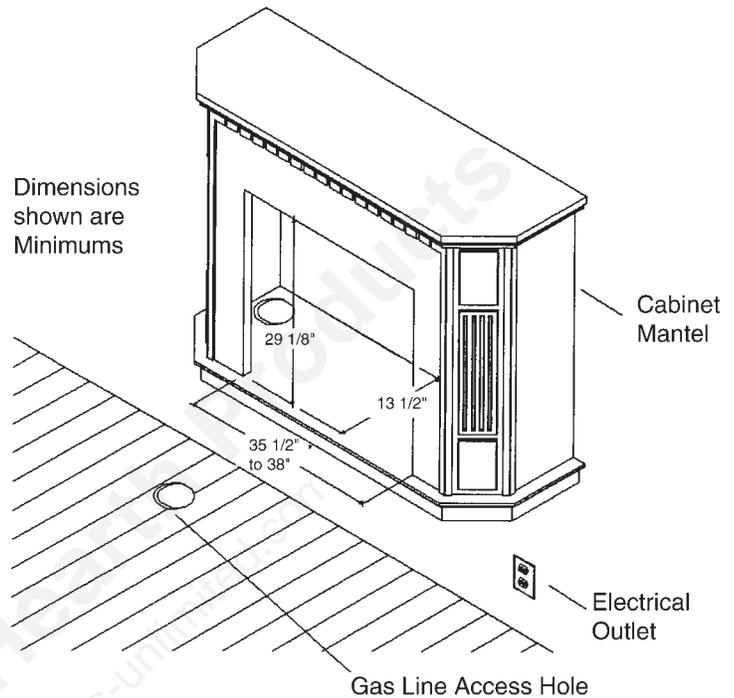

FIGURE 9 – Installing Cabinet Mantel
2. Install gas piping to firebox location. See *Installing Gas Line*, page 17. You may have to cut an access hole in the floor or wall to run gas line to firebox. Make sure to locate access hole so cabinet mantel will cover it when installed (see Figure 9).